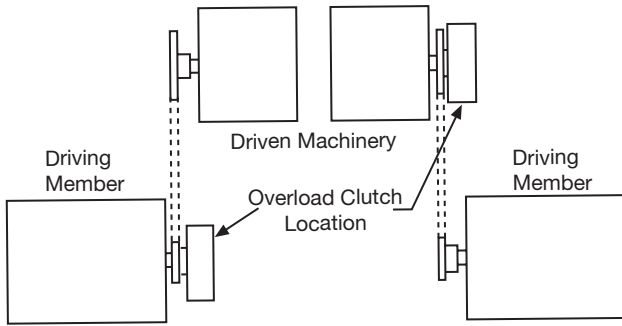

Figure 11
a. Either location of the clutch shown in Figure 11 is **preferred** in indirect drive applications.